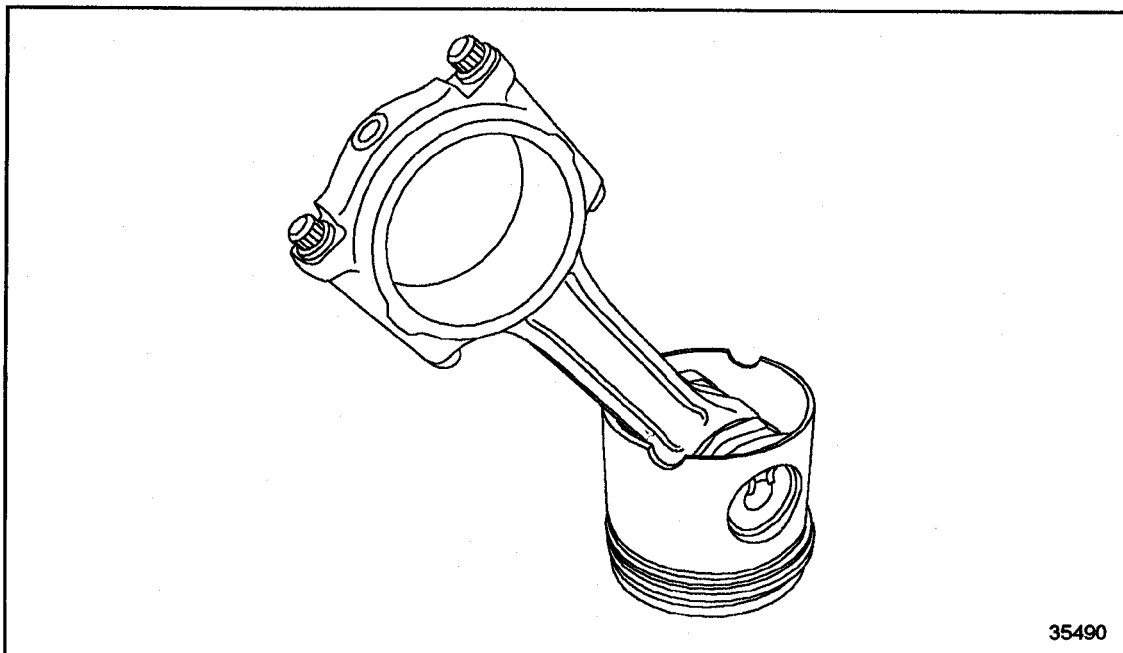

Figure 1-260 Positioning of the Piston and Connecting Rod Assembly
1. Place the piston, dome down, on the table. See Figure 1-260.